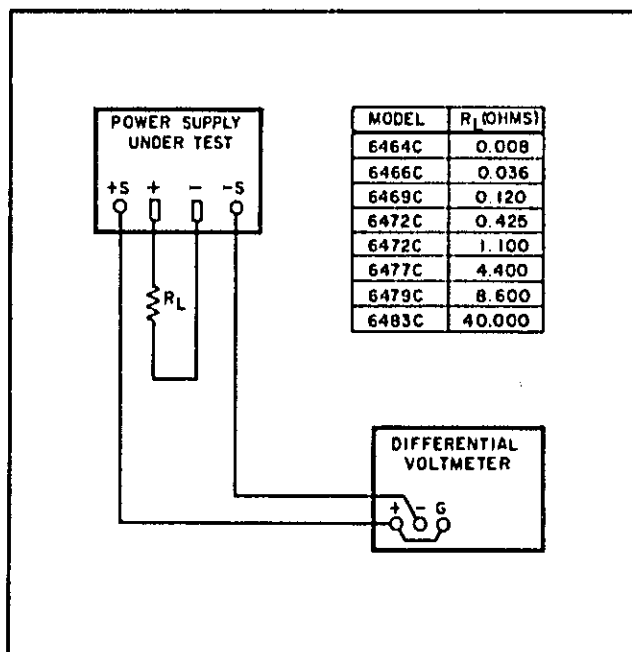

Figure 5-1. Constant Voltage Load Regulation Test Setup
- Connect test setup shown in Figure 5-1.
- Connect test setup shown in Figure 5-1,